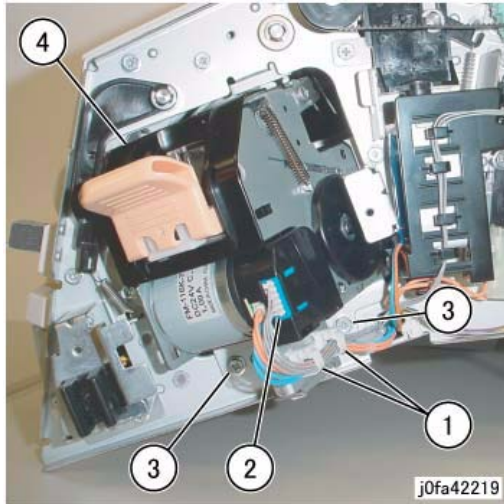

Figure 1 Removing the Stapler Assembly
5. Remove the Stapler Assembly (Figure 1):